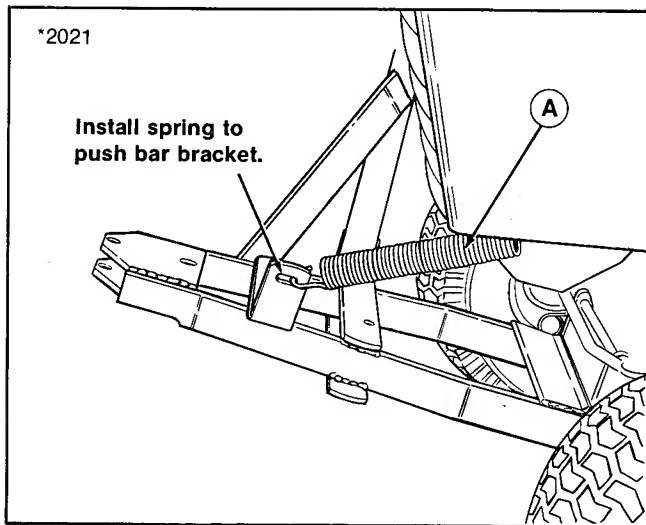

Figure 5.
4. Raise the push bar and hook up the spring (A, figure 5) to the push bar bracket and the 4-link chain.
3. Raise push bar and unhook the spring (A, figure 5) from the chain. Remove the chain from the frame bracket. Reinstall safety clip to clevis pin.